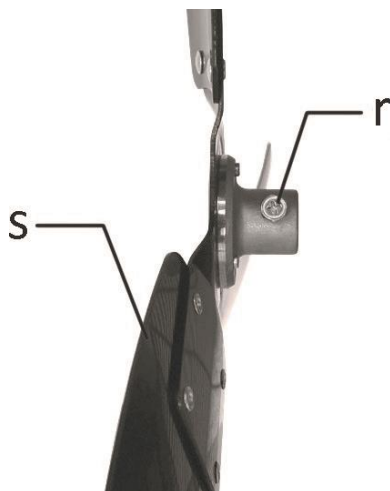

fig.13
1. Loosen the screw (r) from the fan blade (s). (fig.13)